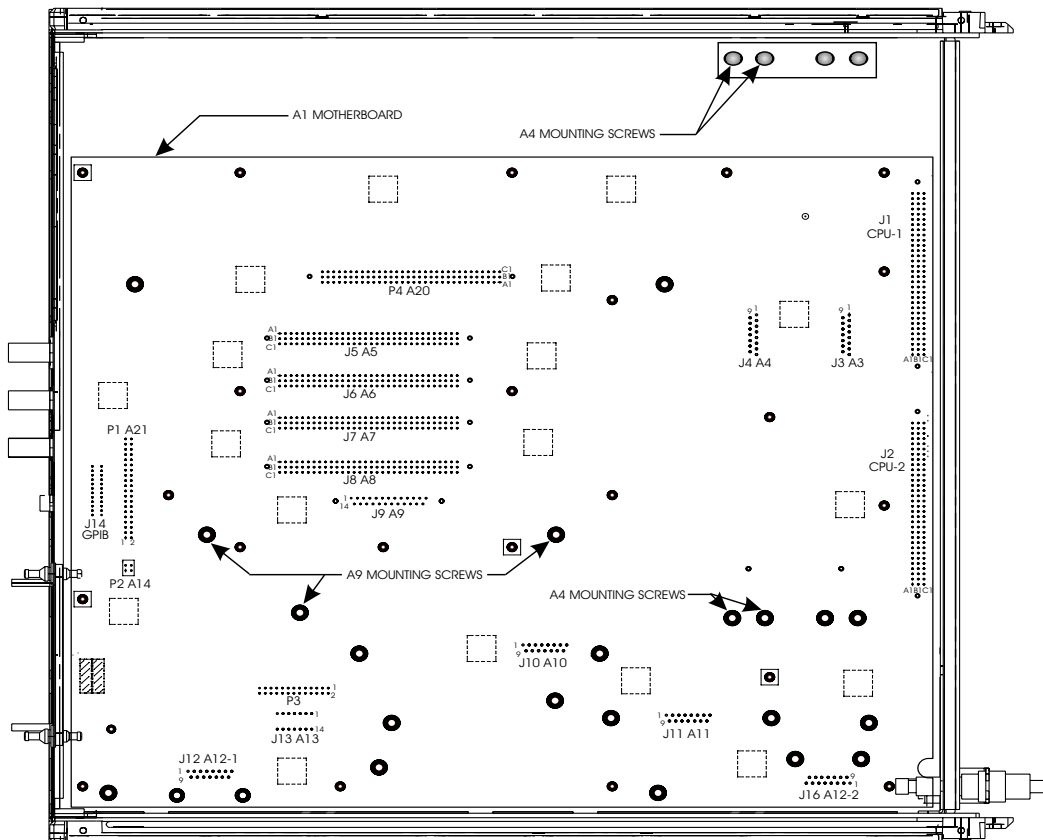

Figure 6-6. Location of Retaining Screws for A4 PCB Assembly and A9 YIG Assembly
Step 1. Carefully disconnect the coaxial cables from the top connectors of the A3 PCB assembly. See Figures 6-6 and 6-7.